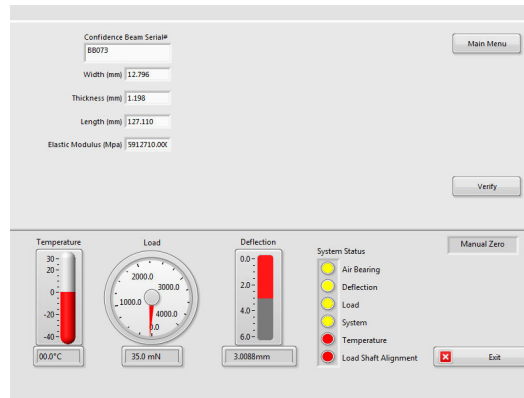

Figure E.6 - Verification main screen
1. To begin, select “Verification” from the Main Screen. The screen shown in Figure E.6 will display.